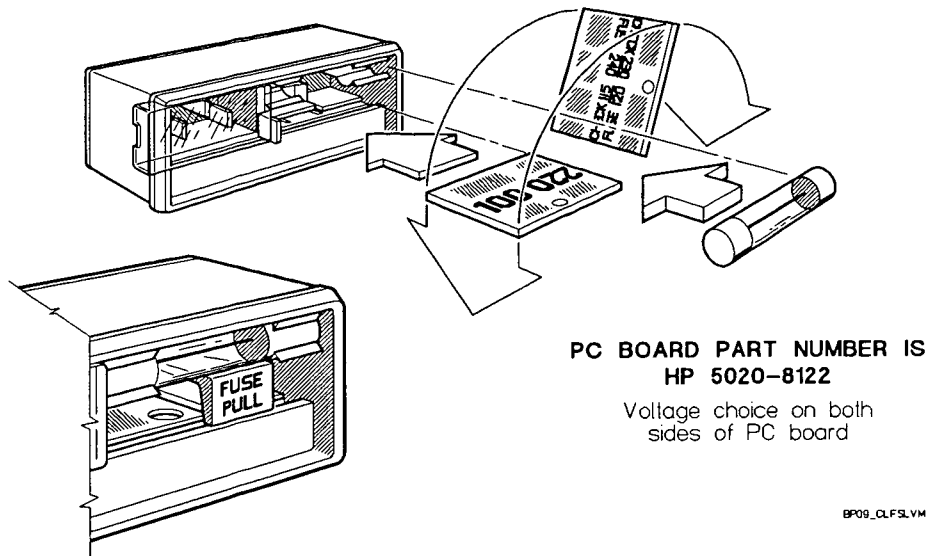

Figure B-1. Changing the Line Fuse and Selecting the Line Voltage
2. Move the sliding window covering the card compartment to expose the circuit card and fuse (see *Figure B-1*).